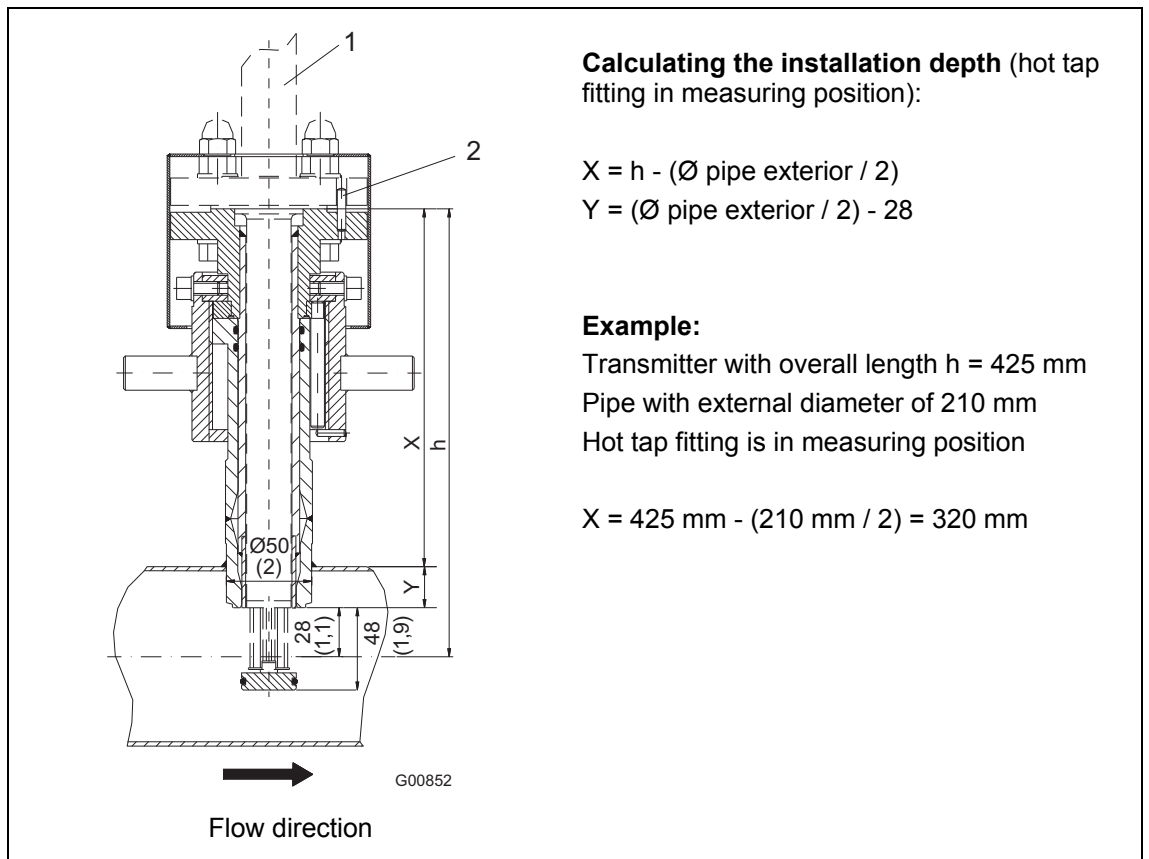

Fig. 9: Dimensions in mm (inches) Hot tap fitting in measuring position.
- The adapter centering pin must be aligned with the pipe axis in the flow direction (outflow side, behind the measuring point), see Fig. 9.